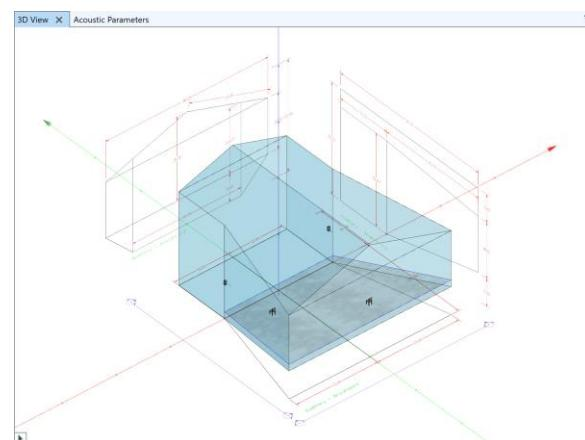

Figure 4.15 Parallel Perspective.
- In **PARALLEL** mode, an orthographic projection is used instead of a central projection. In this mode, objects that are farther away will not appear smaller than objects closer to the viewer (Figure 4.15). This option corresponds to a viewing location at a large distance. It is often useful, especially for drawing or verifying models without perspective distortion.